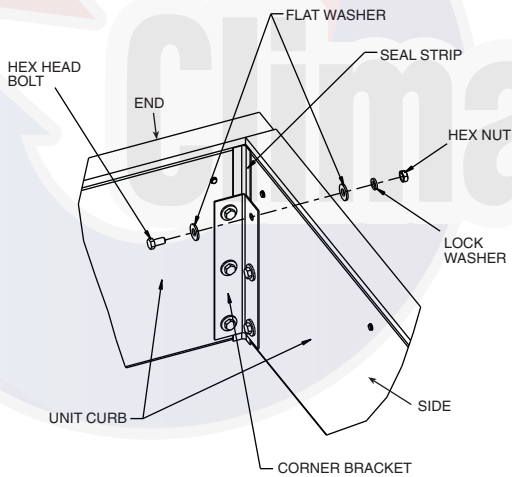

Fig. 20 — Corner Bracket
2. Arrange sides and ends together at right angles and bolt together using the corner bracket as shown in Fig. 20.